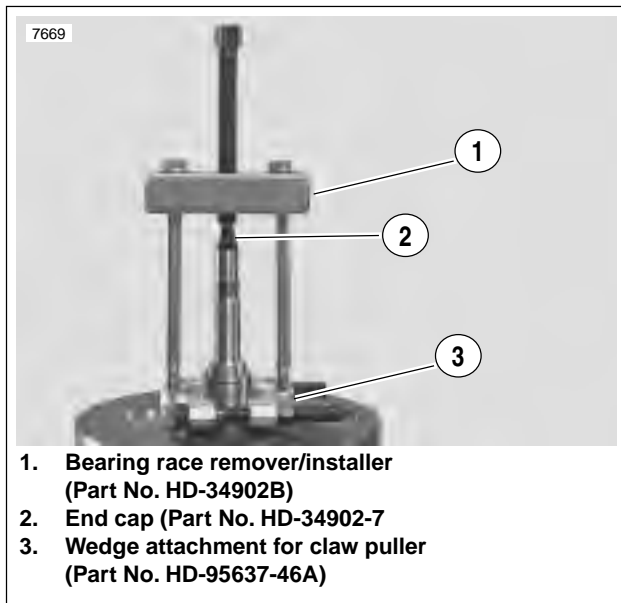

Figure 3-141. Removing Pinion Bearing Inner Race
11. See Figure 3-141. To remove pinion shaft inner race, use WEDGE ATTACHMENT for CLAW PULLER (Part No. HD-95637-46A) with BEARING RACE REMOVER/INSTALLER (Part No. HD-34902B) and END CAP (Part No. HD-34902-7). Apply heat to race to aid removal.
7. See Figure 3-141. Pull inner race from pinion shaft using WEDGE ATTACHMENT for CLAW PULLER (Part No. HD-95637-46A) with BEARING RACE REMOVER/INSTALLER (Part No. HD-34902B) and END CAP (Part No. HD-34902-7). Apply heat to race to aid removal.